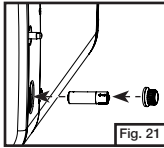

Fig. 21
- Install battery in the correct orientation as shown on the battery cover. (Fig. 21)